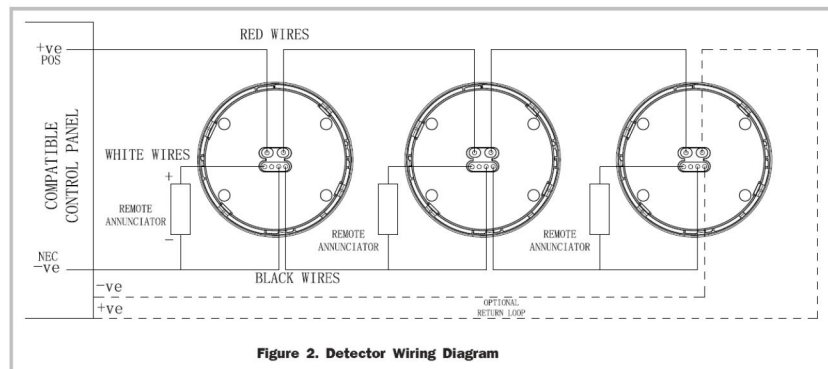

Figure 2. Detector Wiring Diagram
2. Connect the Wires to loop wiring as per the wiring diagram, see Figure 2.